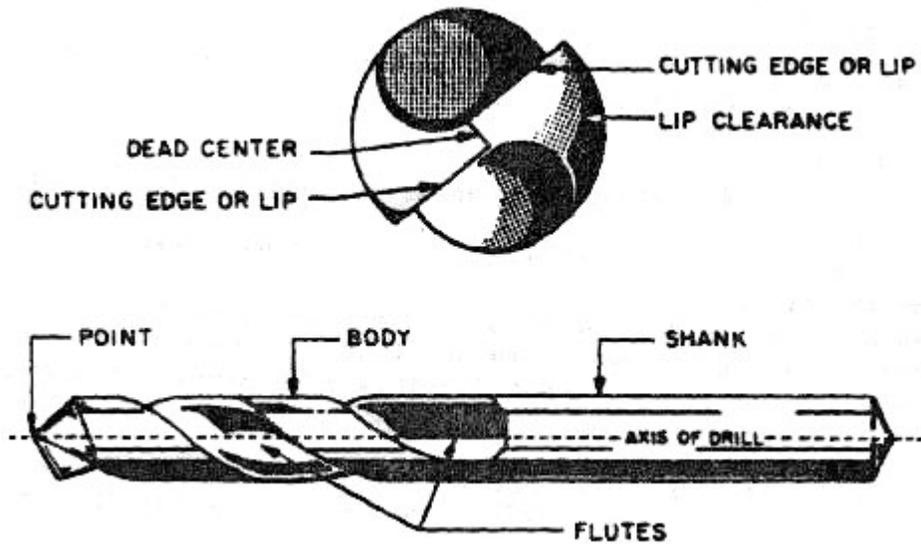

Figure 8-6. Parts of a Drill
3. Parts of a drill: (See Figure 8-6)